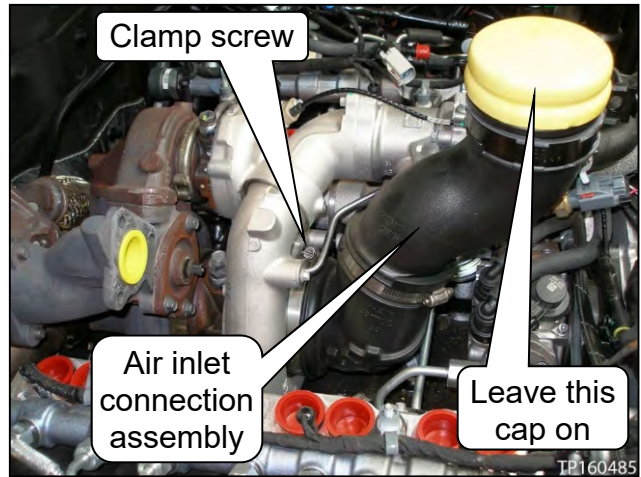

Figure 48
34. Loosen the clamp, and then remove the air inlet connection assembly (see Figure 48).